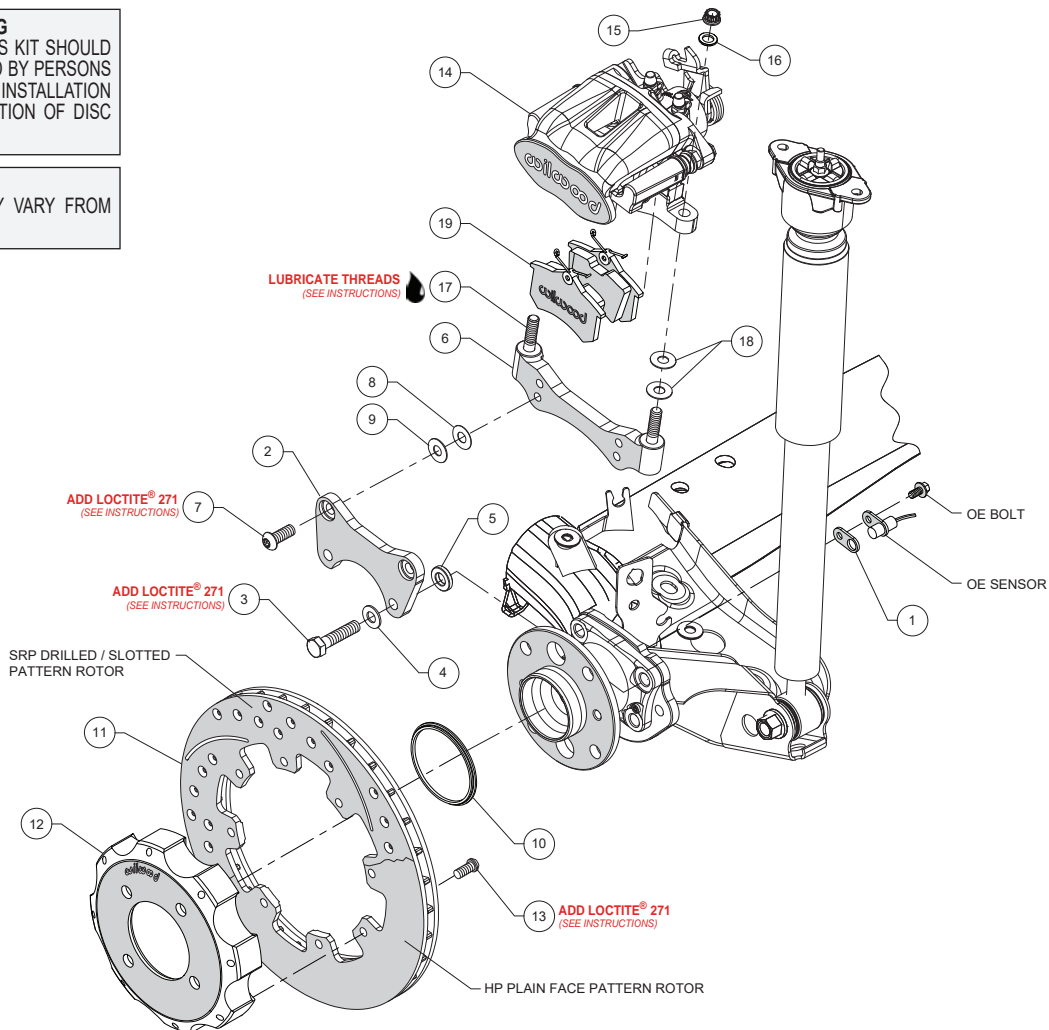

Figure 1. Typical Installation Configuration
- Remove the Original Equipment Manufacturer (OEM) bolt that secures the sensor from the backside of the upright. Place spacer (1) between sensor and upright as shown in Figure 1, and secure with OEM screw.
- The flat bracket (2) should initially be installed with clean, dry threads on the mounting bolts. Orient the bracket as shown in Figure 1 and Photo 1, and install using mounting bolt (3), washer (4), and spacer (5) placed between the bracket and upright. Temporarily tighten the mounting bolts. **NOTE:** The bracket must fit squarely against the mount bosses on the upright. Inspect for interference from casting irregularities, machining ridges, burrs, etc. After the bracket fitting has been confirmed, remove the mounting bolts one at a time and coat the threads with red *Loctite*® 271. Torque bolts to 45 ft-lbs.
- The caliper mount bracket (6) should initially be installed with clean, dry threads on the mounting bolts. Orient the bracket as shown in Figure 1 and Photo 2, and install using mounting bolt (7). Initially place one each .035" thick shim (8), and .016" thick shim (9) on each bolt between the flat bracket (2) and the caliper bracket, Figure 1. Later, after the caliper alignment has been checked, the mount bolts will be secured using red *Loctite*® 271.
- Orient the rotor (11) and the hat (12) as shown in Figure 1 and Photo 3. Attach rotor to hat using bolts (13). Using an alternating sequence, apply red *Loctite*® 271 to the threads, and torque to 25 ft-lb.
- Slide the rotor registration adapter (10) onto the axle register on the axle hub with the smaller O.D. facing outward, Photo 4. Slide the hat/rotor assembly onto the axle hub, Photo 5. **NOTE:** The hat must fit flush against the axle hub flange or excessive rotor run out may result. Install three lug nuts (finger tight) to keep the hat/rotor assembly in place while continuing with the installation.
- Slide the brake pads (19) up into the caliper (14) from the bottom with the friction material facing the rotor until the "V" spring clip snaps into place against the anvil, as shown in Figure 1 and Photo 6. They should install easily without interference.
•Lubricate the caliper mounting studs (17) with lightweight oil. Initially place two .035" thick shims (18) on each stud as shown in Figure 1. Mount the caliper (14) onto the caliper mounting bracket (6) using washers (16) and lock nuts (15), as shown in Figure 1 and Photo 7. Temporarily tighten the mounting nuts and view the rotor (11) from the end of the caliper. The rotor should be centered in the caliper, Photo 8. If not, adjust by adding or subtracting .016" shims (9) and/or .035" shims (8) between the caliper mounting bracket and the flat bracket (2) to center the caliper on the rotor. Always use the same amount of shims on each of the two mounting bolts. Once the caliper alignment and pad centering are correct, remove the bracket-to-bracket bolts one at a time, apply red *Loctite*® 271 to bolt threads, and torque to 45 ft-lb.